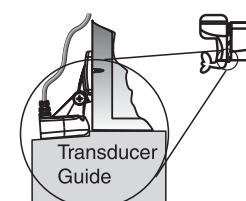

Figure 22
1. First, adjust the pivot angle of the transducer body, so its length is parallel with the length of the hull of the boat. Then, using the angle portion of the mounting template, pivot the transducer down so that it matches the template angle as shown on the template itself (Figure 22).
3. Before removing the template, adjust the height of the assembly so the face of the transducer touches the face of the template (Figure 22). Mark the position of the mounting bracket on the transom with a pencil.